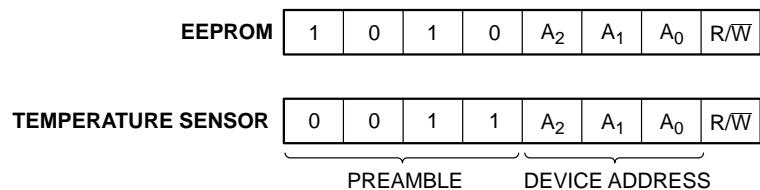

Figure 21. Slave Address Bits
The Master initiates data transfer by creating a START condition on the bus. The Master then broadcasts an 8-bit serial Slave address. The first 4 bits of the Slave address (the preamble) select either the Temperature Sensor (TS) registers (0011) or the EEPROM memory contents (1010), as shown in Figure 21. The next 3 bits, A2, A1 and A0, select one of 8 possible Slave devices. The last bit, R/W, specifies whether a Read (1) or Write (0) operation is being performed.